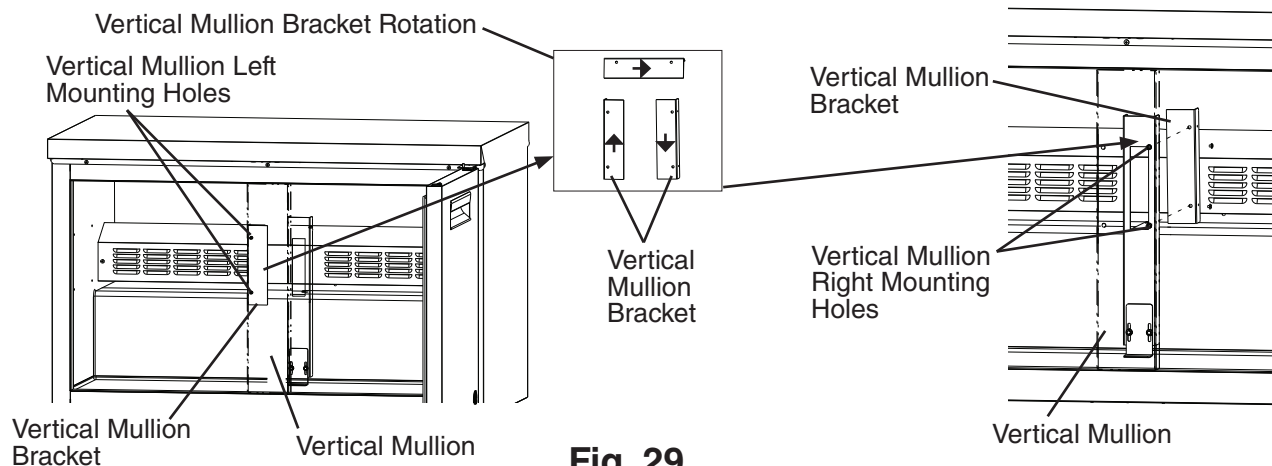

Fig. 29
- 7) Remove the vertical mullion bracket. Rotate 180 degrees and mount it in the vertical mullion right mounting holes. See Fig. 29.